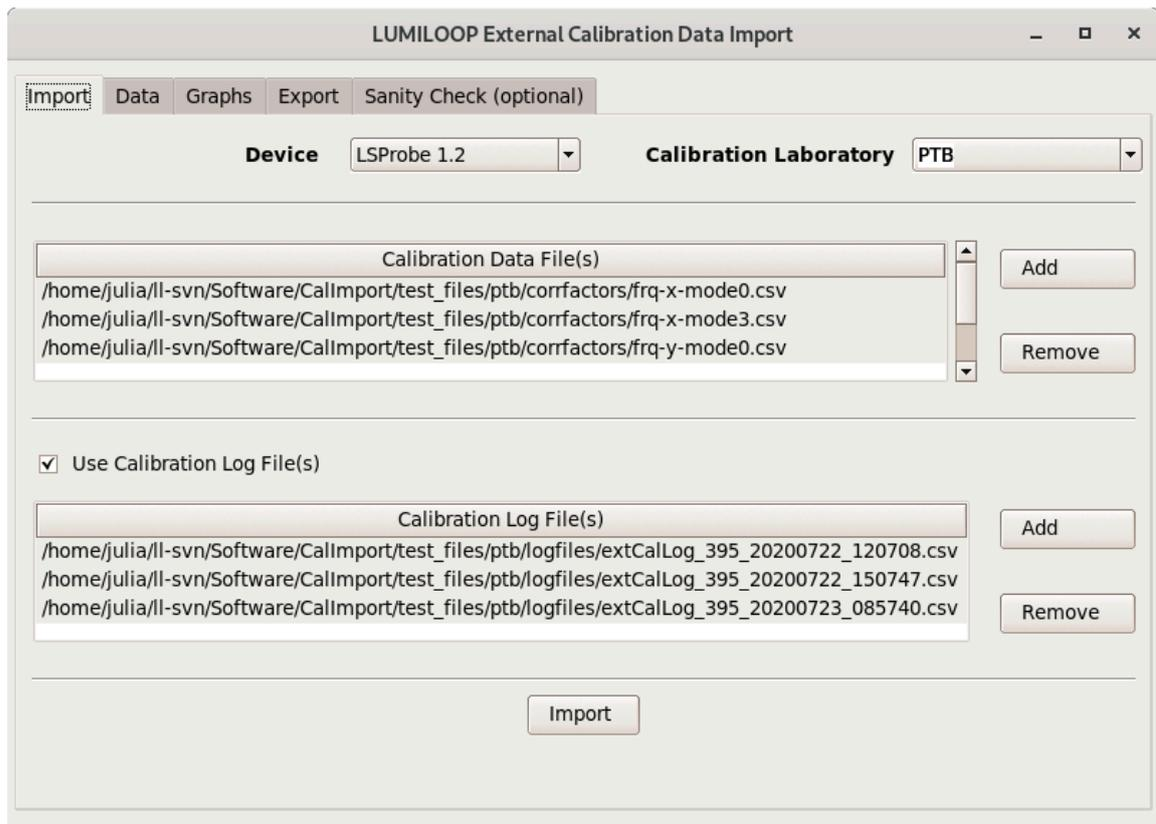

Figure 102: Using the calibration data import tool CallImport
1. Run CallImport as shown in Figure 102.